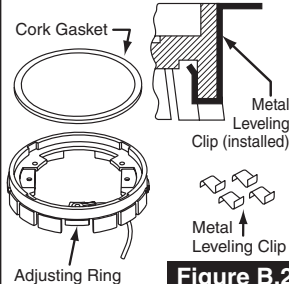

Figure B.2
SEE FIGURE B.2
- 1) Attach (4) metal leveling clips to the underside of the adjusting ring as shown in Figure B.2.
- 4) Attach the desired P60 series cover assembly and 68P-FL trim ring to the 68-PAR using the (3) #8-32 x 1" screws furnished with the cover.
- 6) To make electrical connections, remove the cover by unscrewing the (3) #8 x 1" screws.